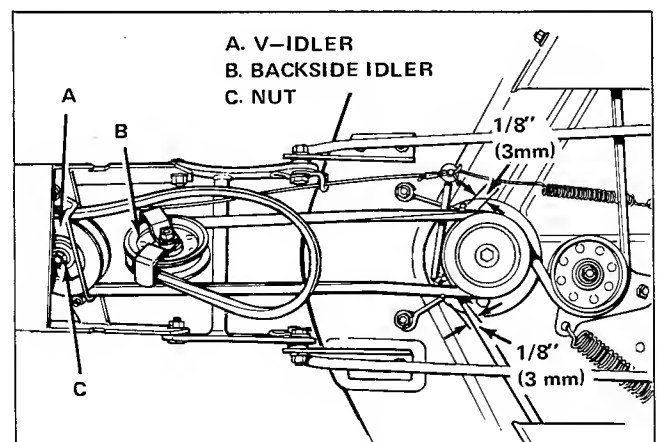

Figure 41. Belt Stop Adjustment
6. If because of wear the drive belt has stretched to the point where the backside clutch idler contacts the front V idler (items B and A, figure 41) when the PTO is engaged, the front V idler can be moved forward.
The center arbor belt stops are correctly adjusted when they are 1/8 inch (3 mm) from the belt when the PTO is engaged (see figure 41). If they are not properly adjusted, loosen the nut and lockwasher holding on the belt stop and move the belt stop to the proper position. Retighten the nut while holding the belt stop to keep it from moving out of position.